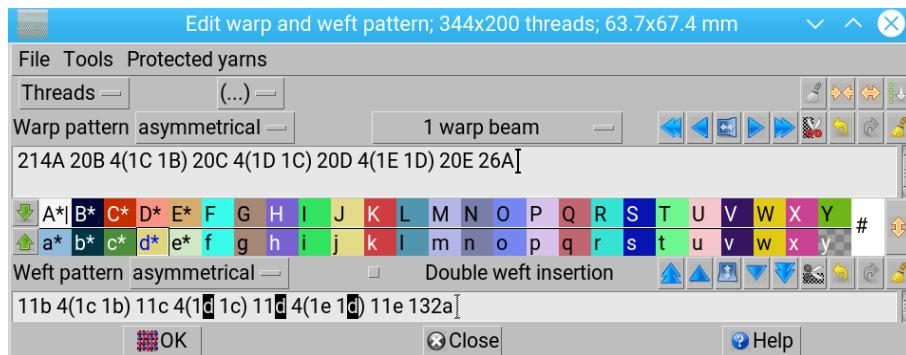

Figure 139: Warp and weft pattern editor
Figure 139 shows a window for entering the warp and weft pattern. The main parts are :
- The letters of warp, which are used in the selvedges, are marked by a vertical bar (|) (letter A in Figure 139).
- The last color in the yarn bar (in Figure 139 it is white, labeled with #) is the background color. If the fabric it is transparent, like a curtain, the background color is visible through it.
- Currently selected yarn (d in weft in Figure 139) is highlighted in the pattern, so you can easily find it.